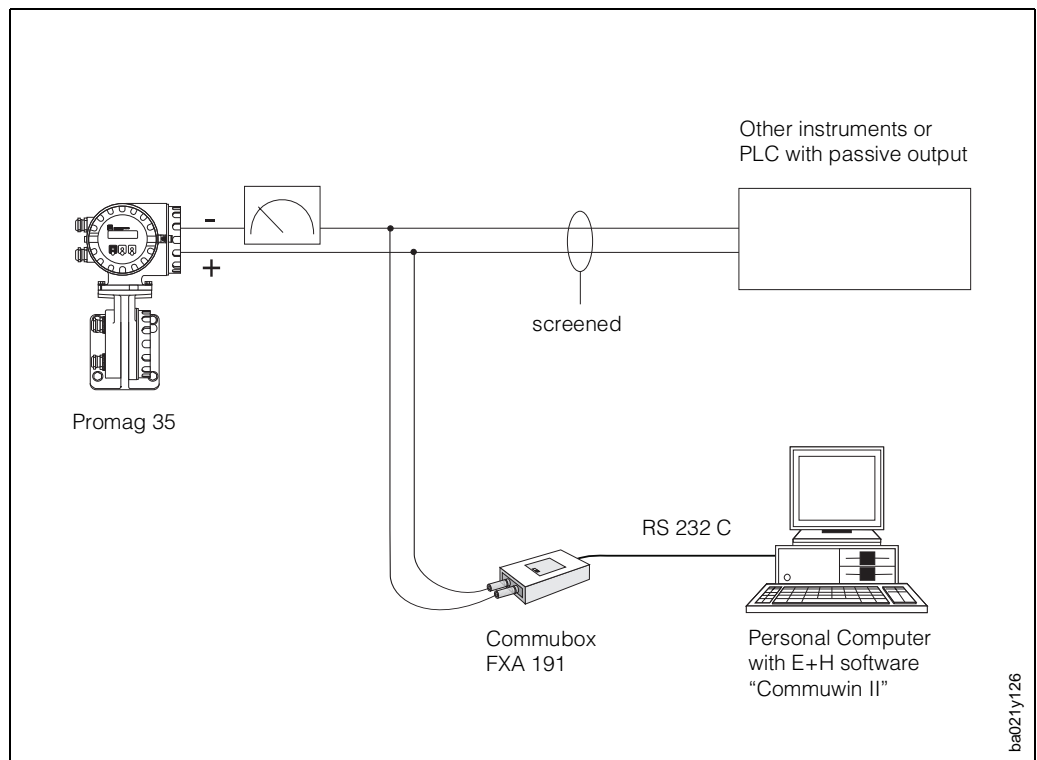

Fig. 43
- Connection via the analogue 4...20 mA cable of current output (see Fig. 43).